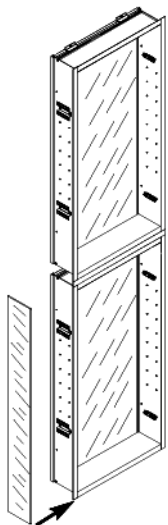

FIG 13
- 6d. Begin with bottom cabinet. Peel tape off brackets and place side mirror so it is even with front of cabinet flange and flush with the **bottom** of the cabinet. Repeat for opposite side. (Fig 13)
15. Begin with bottom cabinet. Peel tape off brackets and place side mirror as shown (Fig 13). Mirror should be even with front of cabinet flange and flush with the **bottom** of the cabinet. Repeat for opposite side.